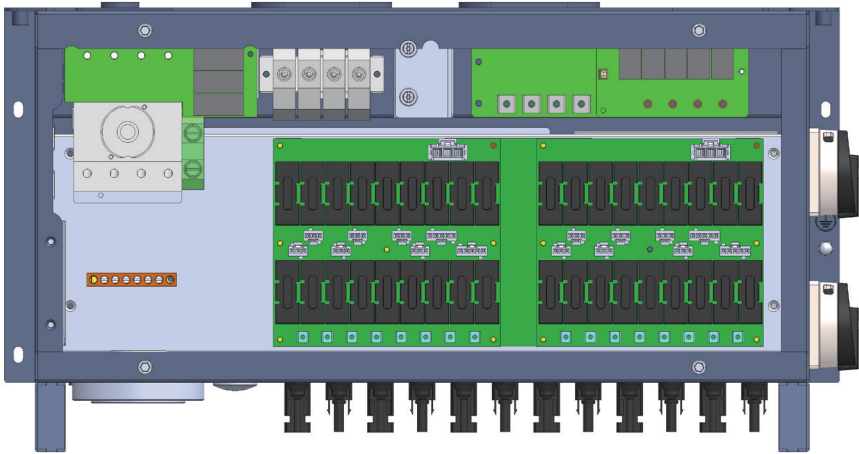
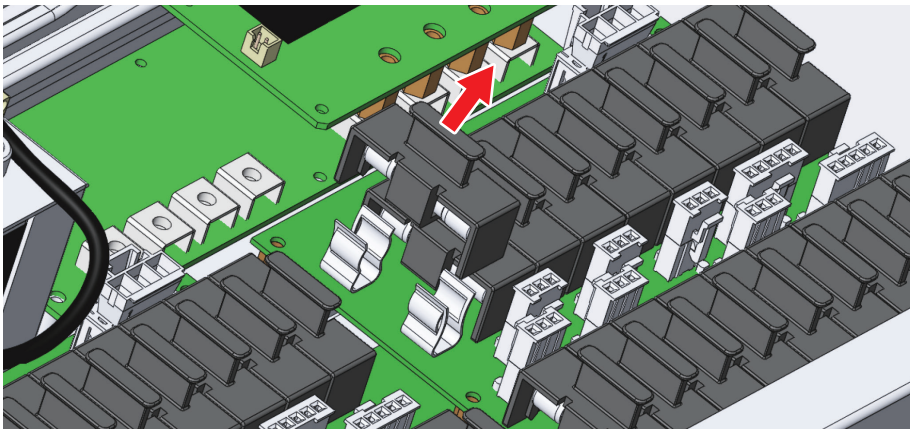

Figure 5-10: Fuse holder locations for M80/60U_122
Figure 5-11: Accessing the individual fuses for M80/60U_122
Figure 5-10 shows the location of the combiner fuse holders, and **Figure 5-11** provides details to remove a fuse from the -122 WB; refer to **Figure 2-5** for additional information.
4. Based on step 1, check the corresponding fuse locations by pulling out the fuse holder (**Figure 5-11**) and checking continuity of the fuse.